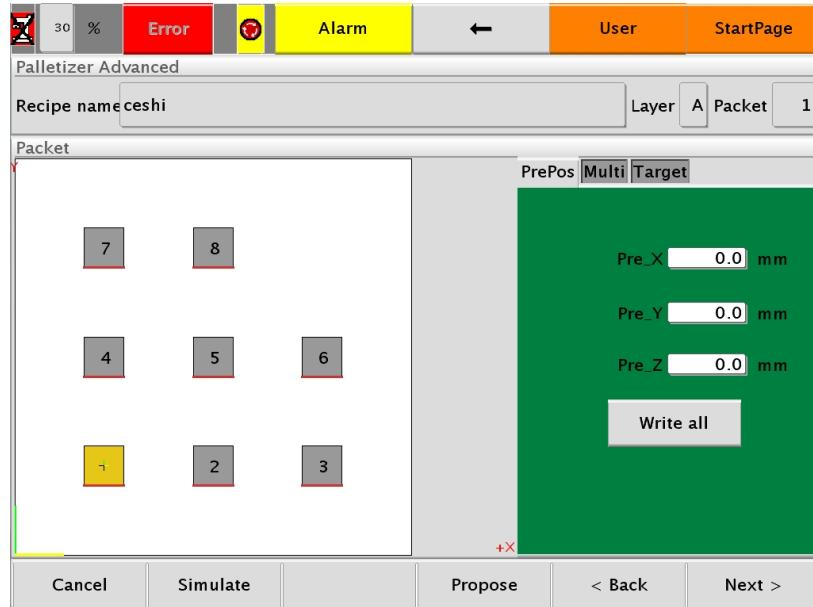

Figure 35
(6) Click "Edit" to pop up as shown in **Figure 35** below.